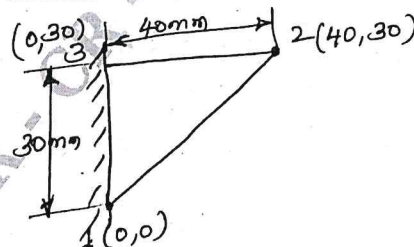

Fig Q3(b)
- b. For the triangular plate shown in Fig Q3(b) below, compute the strain displacement matrix considering the plate as one element